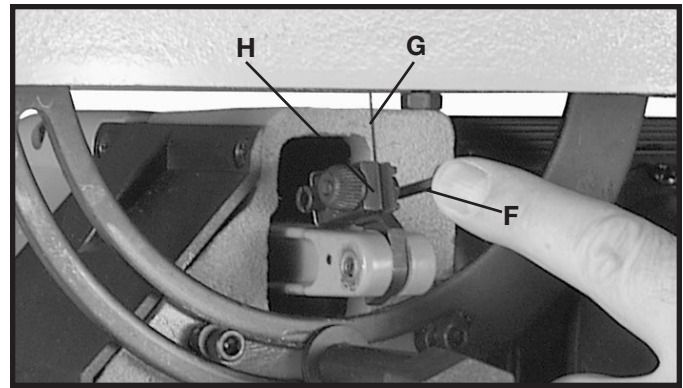
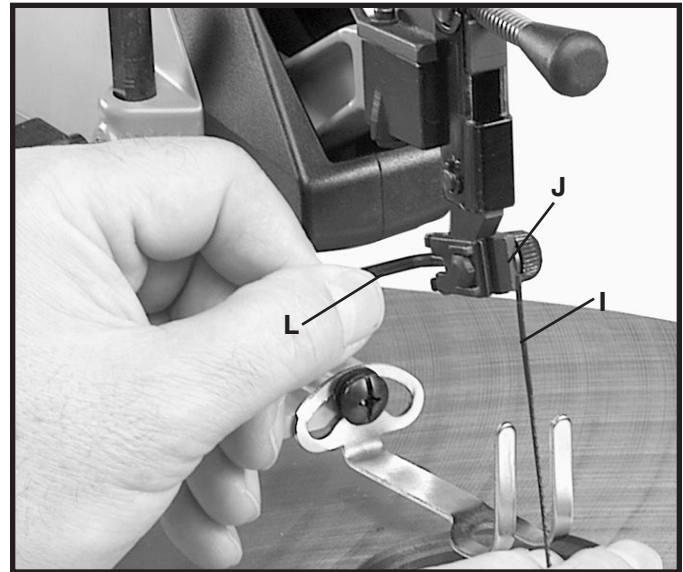

Fig. 25
Fig. 26
4. Push lower blade chuck locking lever (F) Fig. 25, to the rear as shown. This will release the blade (G) from the lower chuck (H).
5. Insert new blade (I) Fig. 26, into the upper blade holder (J) making certain the blade teeth are pointing down toward the table. Push upper blade chuck locking lever (L) to the front. Insert new blade into the lower blade holder Fig. 25 in the same manner.